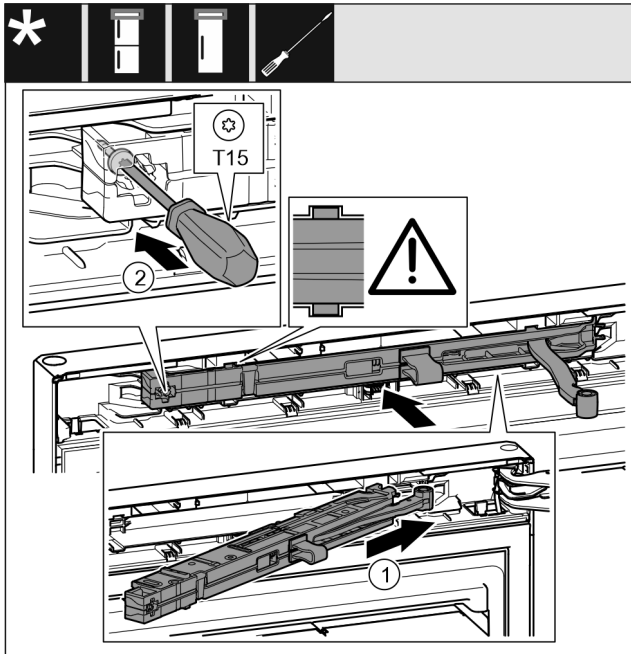

Fig. 26
- ▶ Slide the soft stop mechanism on the bearing bracket side at an angle into the recess as far as it will go. Fig. 26 (1)
- ▶ Tighten the screw using a T15 screwdriver. Fig. 26 (2)